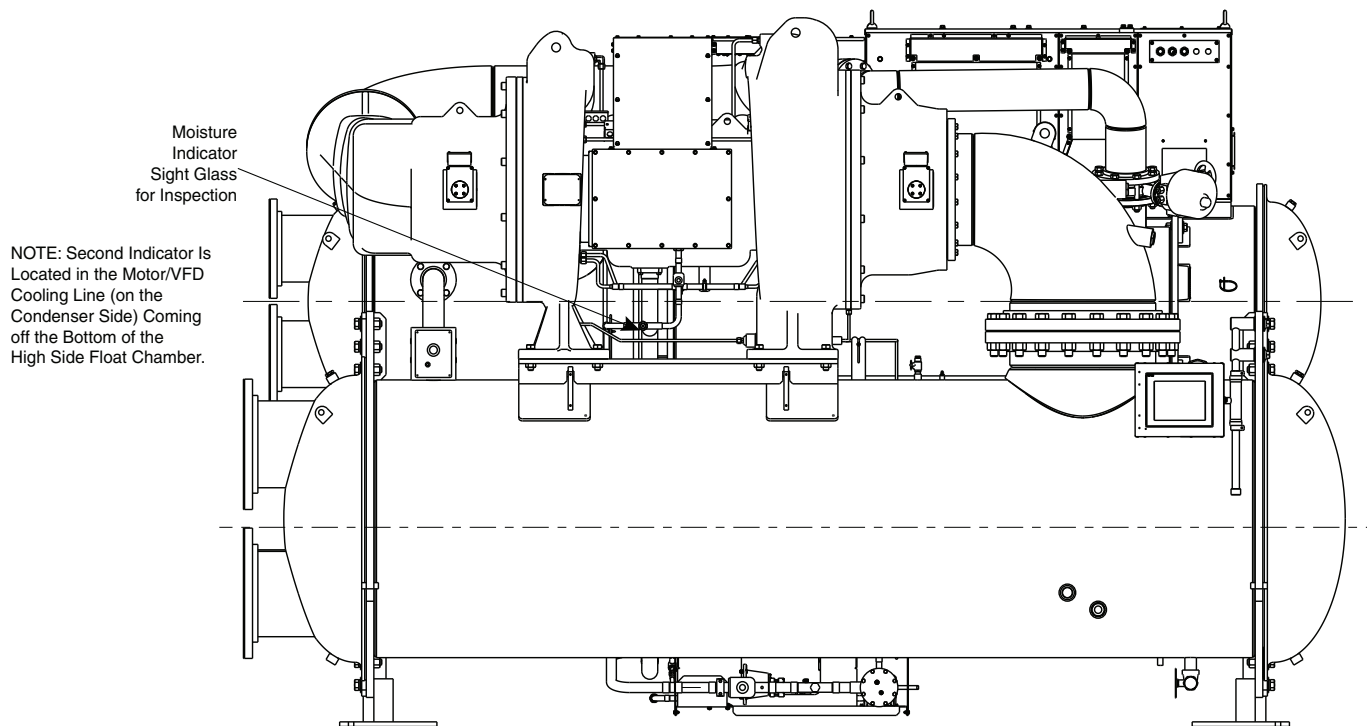

Fig. 44 — Moisture Indicator Sight Glass for Inspection
2. Check moisture indicating sight glass on bearing supply line (Fig. 44) as well as on the motor/VFD liquid cooling line (located between vessels feeding of the high side float chamber; sight glass is located downstream of filter drier).